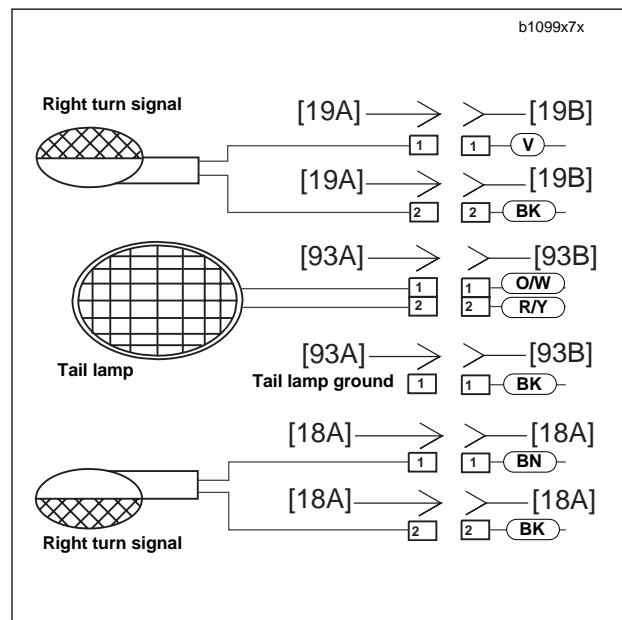

Figure 7-49. Rear Turn Signal Connections
3. See Figure 7-49. Disconnect bullet connectors on turn signal wires.
1. See Figure 7-49. Insert bullet connectors through license plate bracket (4) and tail section (7).
2. Install reflector bracket (3).
- a. Place license plate bracket into position over threads on turn signal (1).
3. Attach turn signal using lockwasher (5) and fastener (6). Tighten fastener to 25-28 **in-lbs** (2.8-3.2 Nm).
4. Attach bullet connectors on turn signal wires as shown in Figure 7-49.